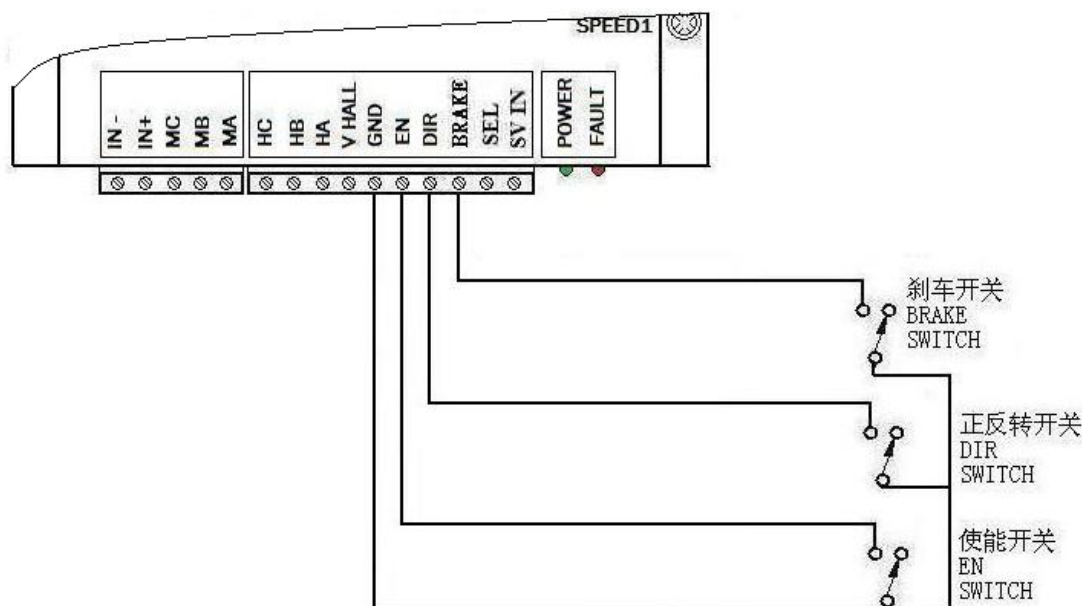

Figure 4
**VII. Function and connection of control terminal: see Figure 4**